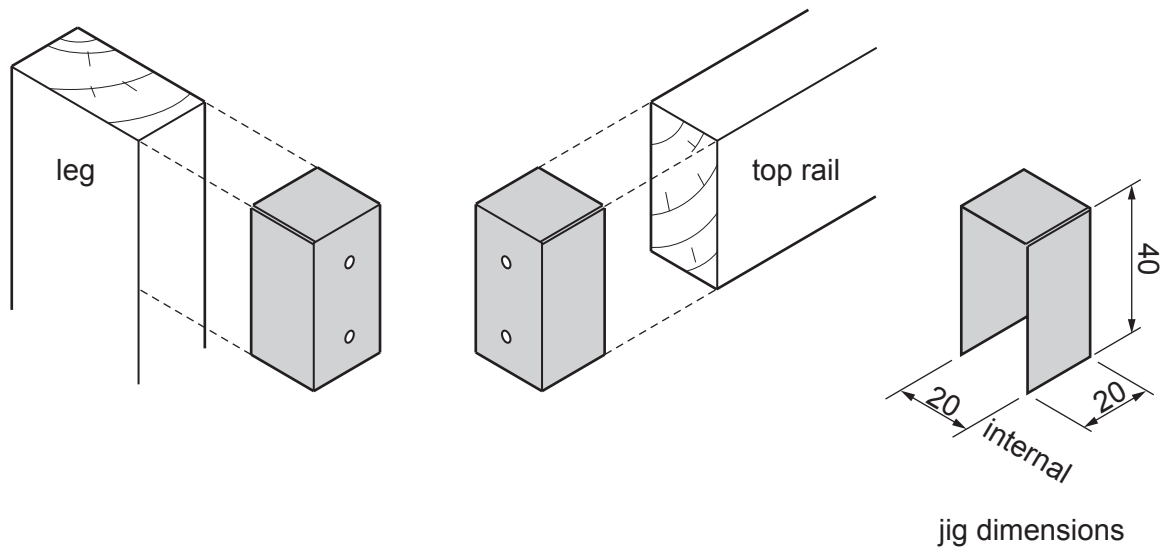

Fig. 11.5
- (e) Fig. 11.5 shows details of a jig that could be used to mark out the positions for the dowels on the ends of the top rails and legs. The jig is made from 1 mm thick mild steel sheet. The jig fits neatly over the end of the top rails and legs.